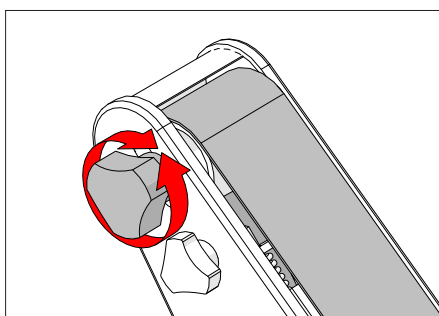

Figure 5 Control adjustment button.
4. As you spin the wheel, rotate the adjustment button, Figure 5, counterclockwise to move the belt to the left or clockwise to move the belt to the right.